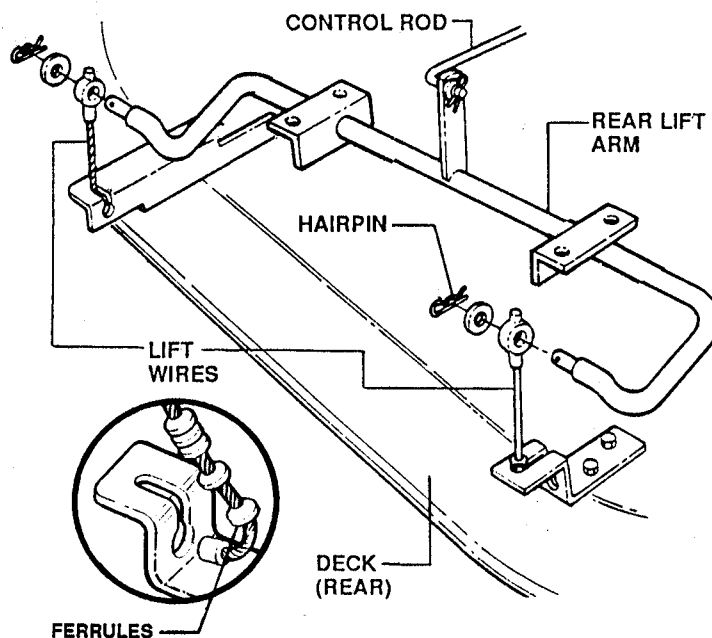

FIGURE 27
3. Remove hairpins and washers from REAR LIFT ARM CABLES. See Figure 27.
10. Adjust LIFT CABLE FERRULES in REAR LIFT BRACKETS until CABLES just slide over the rear arm pins. Reinstall flat washers and hairpins. Recheck level. See Figures 27 & 32.